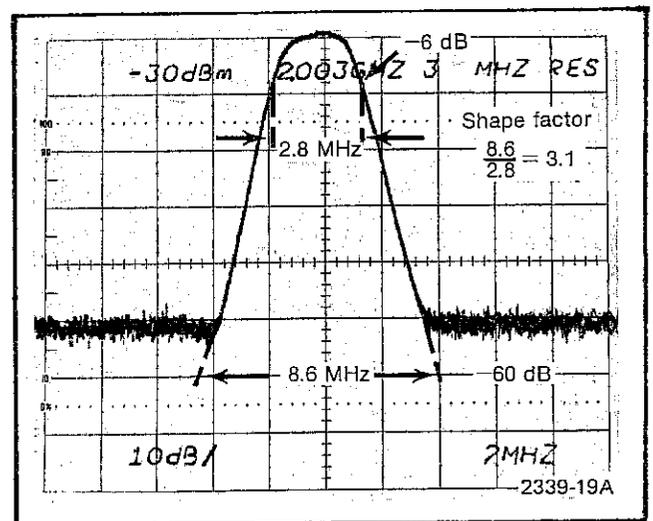

Fig. 4-5. Display Mode 10 dB/DIV.
e. Estimate the -60 dB bandwidth by extending the slope of the response down through the noise level to the -60 dB graticule line. Calculate the shape factor (see Fig. 4-5). Shape factor must equal 4:1 or less.